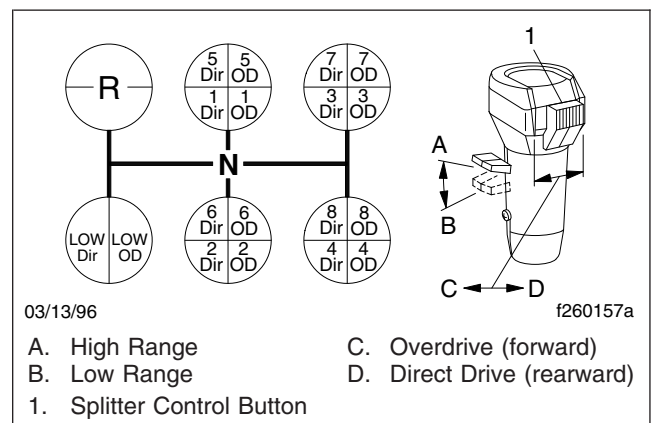

Fig. 13.2, Eaton Fuller 18-Speed Transmission Shift Pattern
- Position the range-preselection lever down, in low range. See Fig. 13.2.
- Make sure the splitter-control button is in the low (rearward) position. See Fig. 13.2.
Upshift from LOW overdrive to 1st direct by first moving the splitter-control button into the direct drive (rearward) position (Fig. 13.2). Double-clutch and move the shift knob through neutral to the 1st gear position.
2. Position the range-preselection lever down, in low range. See Fig. 13.2.